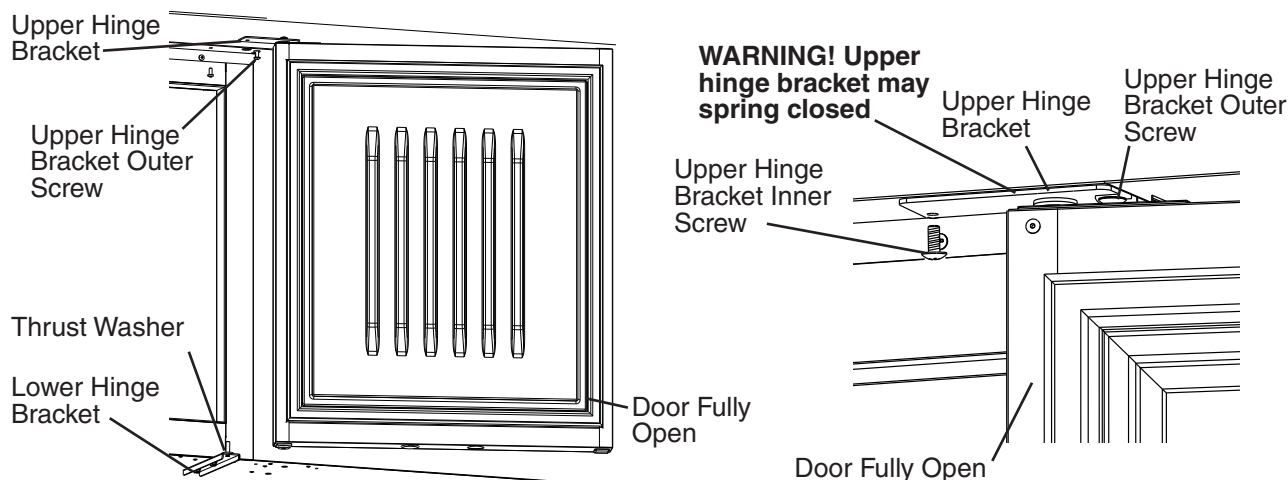

**Fig. 34**
- 16) Be sure the lower hinge bracket thrust washer is in place, then place the door on the lower hinge bracket in the fully open position. Slide the door upper hinge bracket outer slot onto the upper hinge bracket outer screw. See Fig. 34.